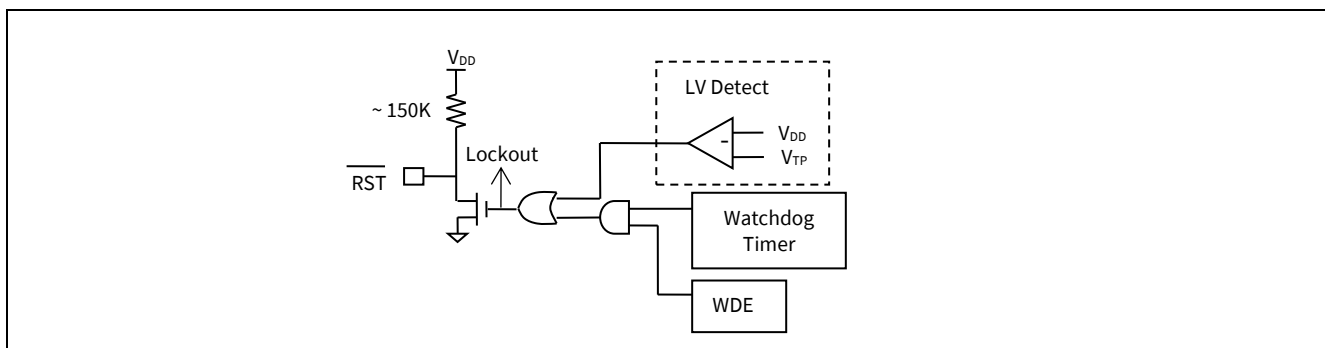

Figure 3 Reset Trigger Sources
There are two trigger sources that can drive reset LOW: Low Voltage (LV) Detect circuit and the Watchdog Timer as shown in Figure 3.